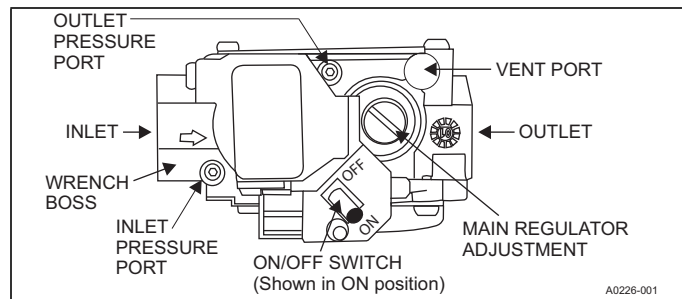

Figure 17: Gas Valve
Inlet and manifold gas pressure can be measured by connecting the U tube manometer to the gas valve with a piece of tubing. Follow the appropriate section in the instructions below. Refer to Figure 17 for an illustration of the locations of the pressure ports on the gas valve.
1. Refer to Figure 17 for location of pressure regulator adjustment cap and adjustment screws on main gas valve.